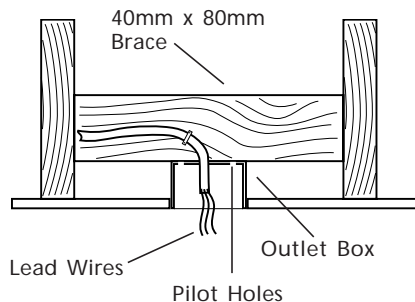

Figure 2a - Pilot Holes and Outlet Box location
1. Drill two pilot holes into the wood support structure through the outermost holes on the outlet box. The pilot holes should be $\frac{9}{64}$ " in diameter and 4 $\frac{1}{4}$ " (110mm) apart. See Figure 2a.